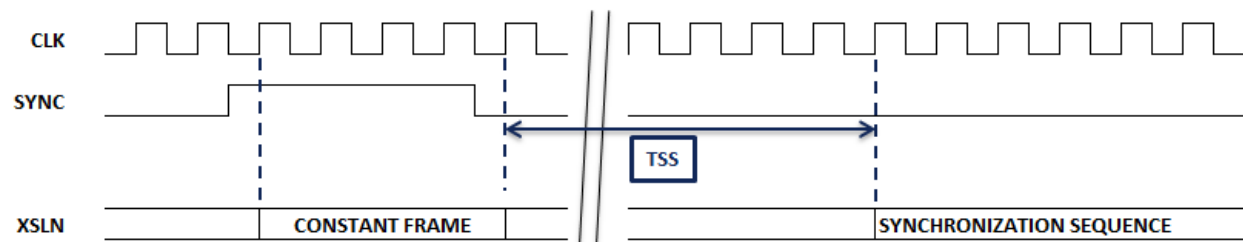

Figure 6: SYNC timing diagram in serial ESistream
7. Refer to timing diagram in Figure 6